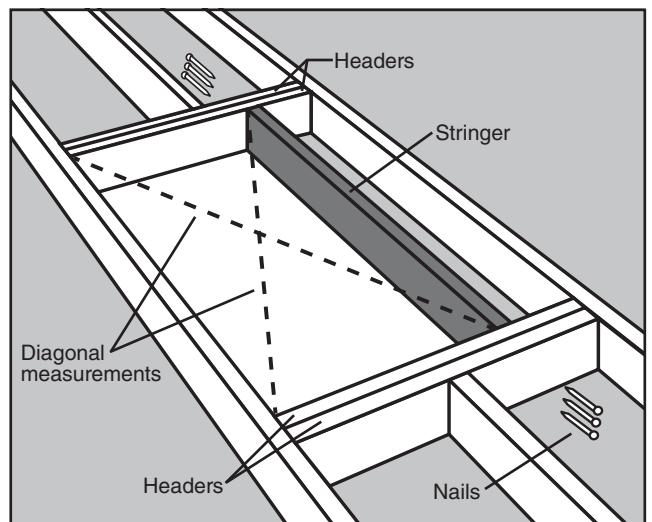

FIGURE 18
- STEP 4.** Position the stringer(s) along the unframed side(s) of your location (See Figure 18). Check that the inside dimensions of the frame are 22-1/2" x 54" (WH2208 and WH2210), 25" x 54" (WH2508 and WH2510), or 30-1/2" x 54" (WH3008 and WH3010).
- STEP 5.** To attach the stringer(s) to the headers, use nails that are long enough to go through both headers and into the stringer at least one inch. Square the stringer(s) to the headers at one end and drive (3) 16d nails through the headers and into the stringer. Check for squareness, then nail the other end. Check the rough opening for squareness by measuring across the diagonals. **The two measurements should be within 1/8" to be considered square** (See Figure 18).